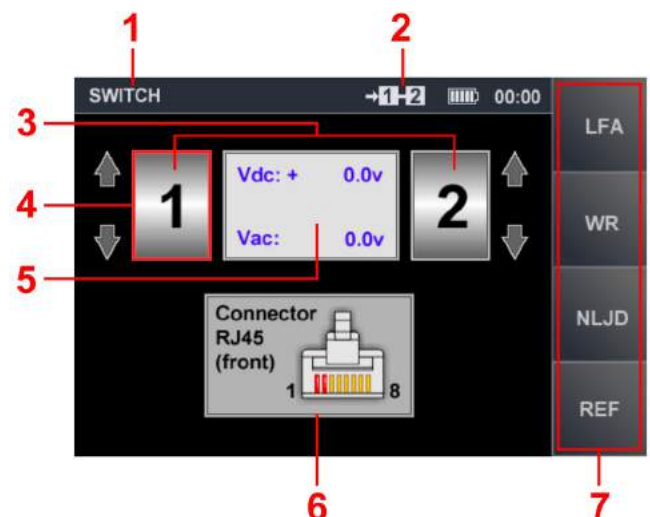

Fig.18
To access the "SWITCH" mode from the Start Menu (Fig.18), using the \downarrow and \uparrow keys highlight "SWITCH" and press "ENTER". The main menu of this mode will appear on screen (Fig.18).
The numbers in Fig. 18 represent:
- using the  and  keys, position the red frame (4 Fig.18) at the left window of the wire pair (3, Fig.18); then, using the  and  keys, set a wire number; now the first wire in the pair is connected;
- using the  and  keys, position the red frame (4 Fig.18) at the right window of the wire pair (3, Fig.18); then, using the  and  keys, set a wire number; now the pair of wires is connected to the device.
The numbers of the wires connected to the device are shown on display (2, Fig.18) in all the operation modes, until another pair of wires is connected to the device. Also, the RJ45 connector is represented graphically on display (6, Fig.18), with the selected two contacts marked red.
The display shows measurements of the AC and DC voltages in the pair of wires currently connected to ST300 (5, Fig.18).
The "LFA" mode only becomes available upon connecting the Main Unit with the Electronic Switch. The mode is accessible from the Start Menu (Fig.18), or from the "SWITCH" mode.